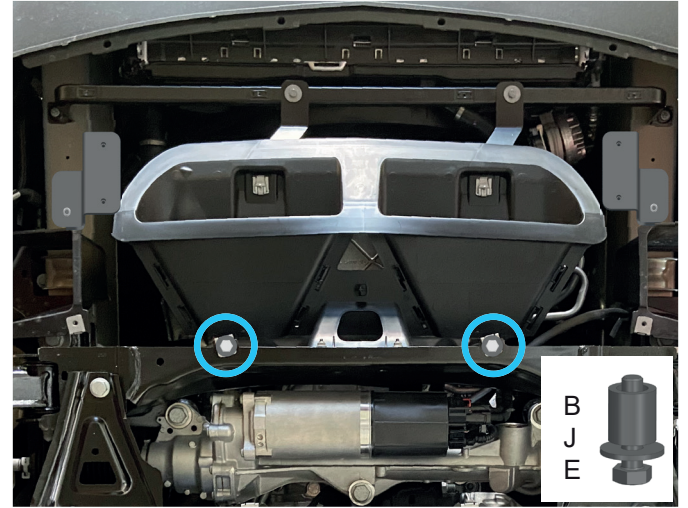

Fig. 4
4. Screw bolts M8x35 with washers 8 and spacers 20mm (item E, J, B) on 2-3 turns, as shown in fig.4.